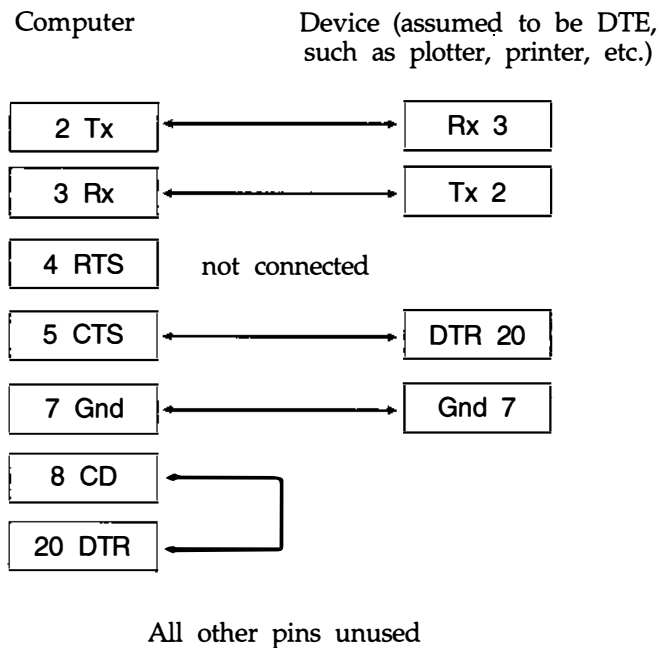

Figure 10-3 DTR handshaking
3. For a device that uses the RTS and/or CTS lines for handshaking, the cable should be wired as shown in Figure 10-3.
4. If the device uses the DTR line for handshaking, the cabling should be as shown in Figure 10-3.